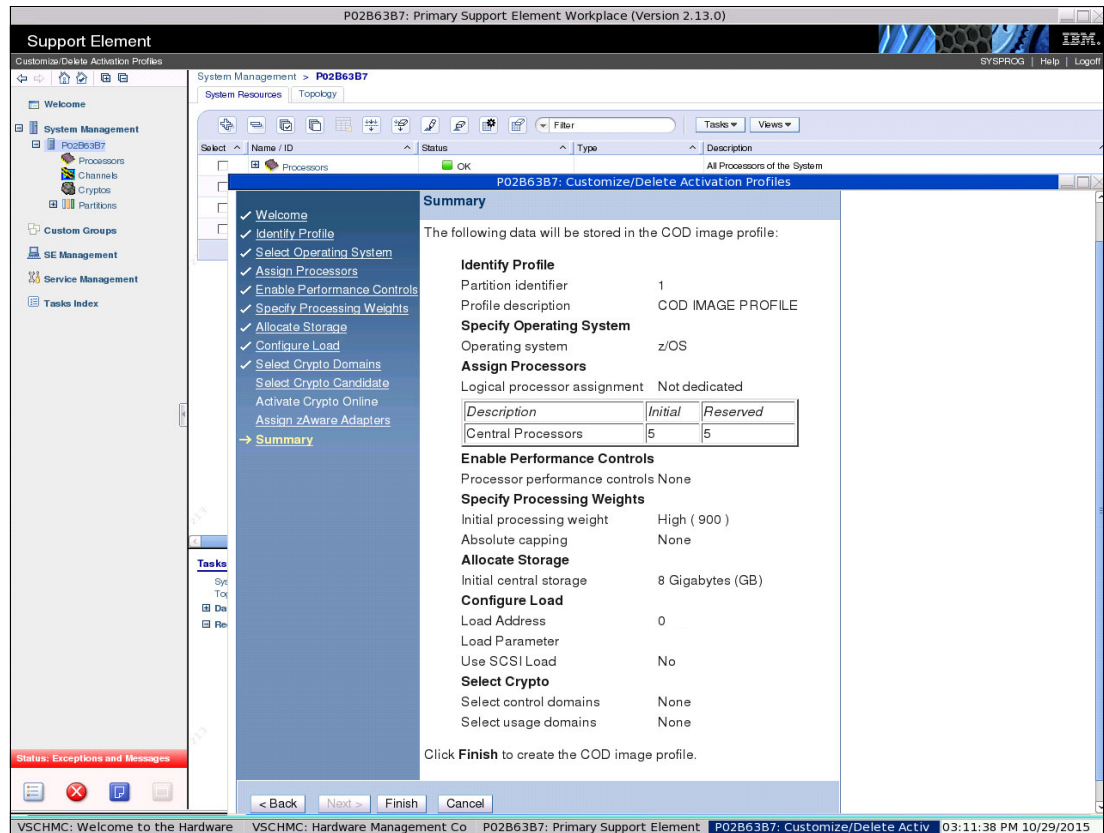

Figure 5-40 Image profile summary information
12. A summary information window opens, as shown in Figure 5-40. We review our image profile configuration and confirm by clicking **Finish**.